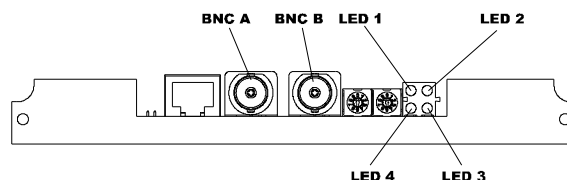

FIG. 52: REAR PANEL CONTROLNET CONNECTORS AND LEDs
- Step 1. For normal operation connect the Cable to either one of the BNC Connectors on the HI 3000 ControlNet Card located at the rear panel of the HI 3000 Series module. (See Fig. 52)